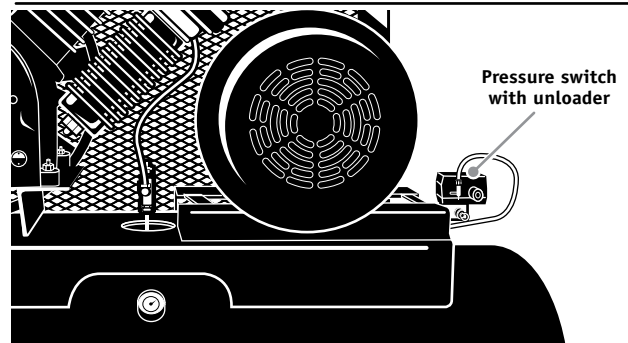

Figure 2: Install unloader line from check valve to pressure switch
4. Make sure there is a 1/4” copper tube (unloader tube) installed from tank check valve to unloader on pressure switch. This relieves head pressure when compressor stops for easier restart. See figure 2.